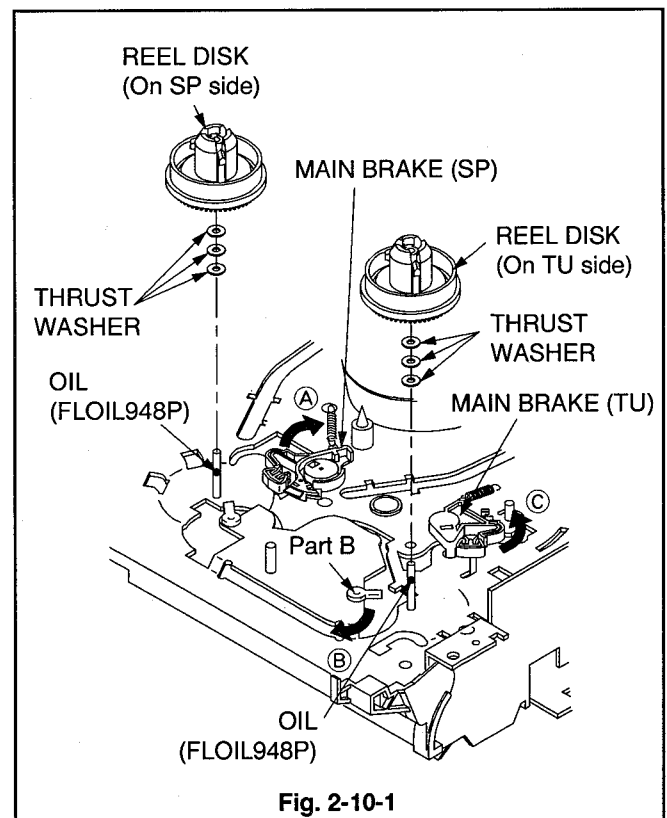

Fig. 2-10-1
- 1 Move the MAIN BRAKE (SP) in the direction shown by arrow A hold it in that state. Remove the REEL DISK (On SP side) as shown in Fig. 2-10-1.
- 2 Move the part B in the direction shown by arrow B with a minus screw driver as shown in Fig. 2-10-1.
- 3 Move the MAIN BRAKE (TU) in the direction shown by arrow C hold it in that state. Remove the REEL DISK (On TU side) as shown in Fig. 2-10-1.
- 1 Apply OIL (FLOIL 948P) [859D154O20] to the shaft shown in Fig. 2-10-1 in which the REEL DISK (On SP side) on the MAIN PLATE ASSY is to enter.
- 2 Install the REEL DISK (On SP side) shown in Fig. 2-10-1.
- 7 Make sure that the REEL DISK (On SP side) shown in Fig. 2-10-1 cannot come off.
- 8 Apply OIL (FLOIL 948P) [859D154O20] to the shaft shown in Fig. 2-10-1 in the REEL DISK (On TU side) on the MAIN PLATE ASSY is to enter.
- 9 Install the REEL DISK (On TU side) shown in Fig. 2-10-1.
- 13 Move the part B of the MAIN PLATE ASSY in the opposite direction of arrow ㊸ as shown in Fig. 2-10-1 so that it points to the centre of the REEL DISK (On TU side).
- 14 Make sure that the REEL DISK (On TU side) shown in Fig. 2-10-1 cannot come off.